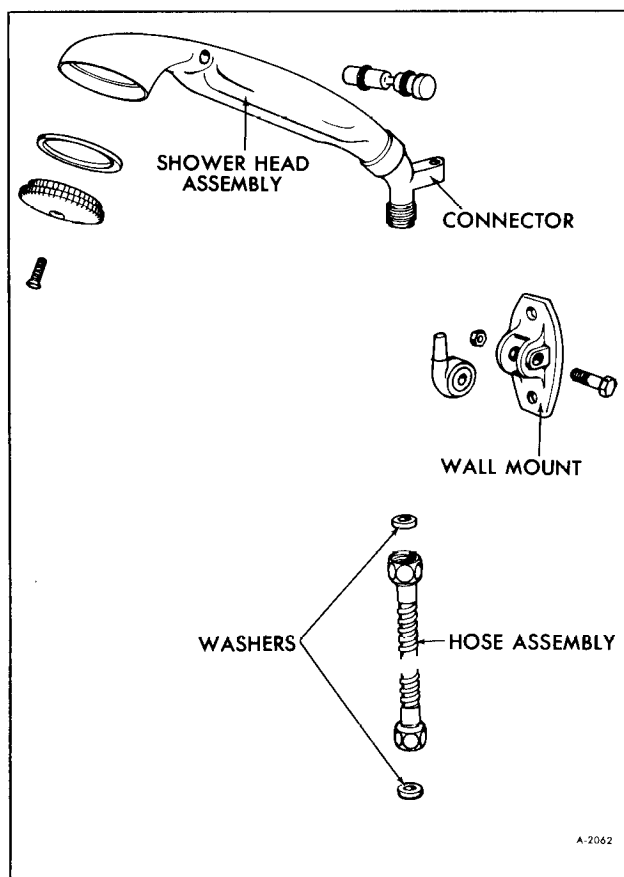

Figure 13-Shower Head Components
2. Remove shower head hose from wall connection (See figure 13).